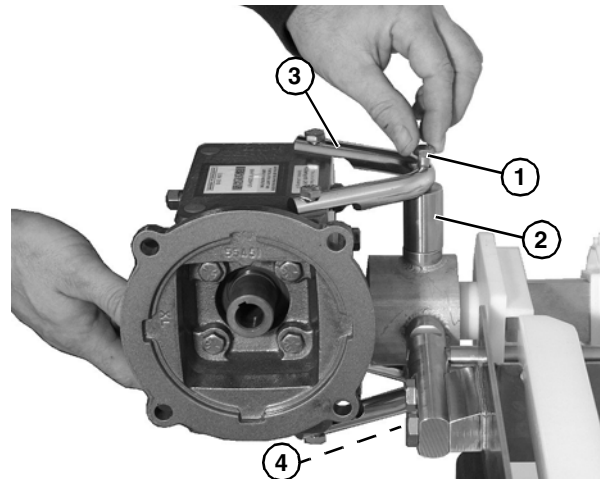

Figure 56
4. Remove top bolt (Figure 56, item 1) and spacer (Figure 56, item 2) holding the bracket (Figure 56, item 3) to the drive assembly.
5. Remove bottom bolt (Figure 56, item 4).